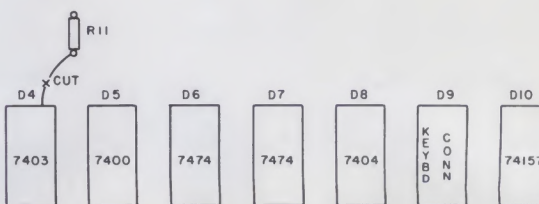

Fig. 3. Reverse video component location.
1. Install a 16-pin IC socket at location D10, a prototype area (see Fig. 3).
5. On the component side of the board, cut the foil trace from R11 to ICD4, pin 8. The trace is under the chip and appears at the top of the chip (see Fig. 3).